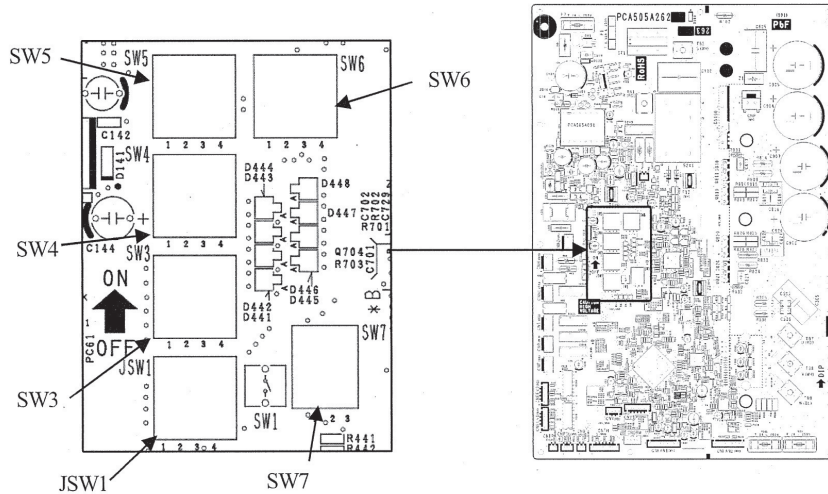

Fig.4 Switch position of main PCB
- a) Match the setting of new main PCB switches (JSW1, SW3-7) with former main PCB. (Refer to Fig.4)